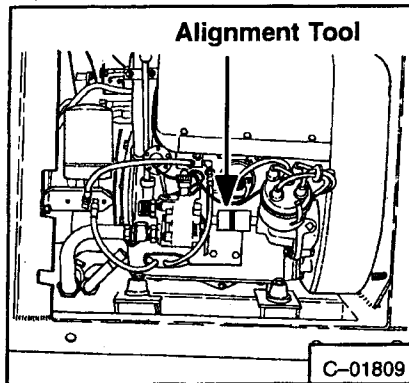

Fig. 4-55 Install Alignment Tool
2. Slip tool over pump shaft to bottom position (Fig. 4-55).